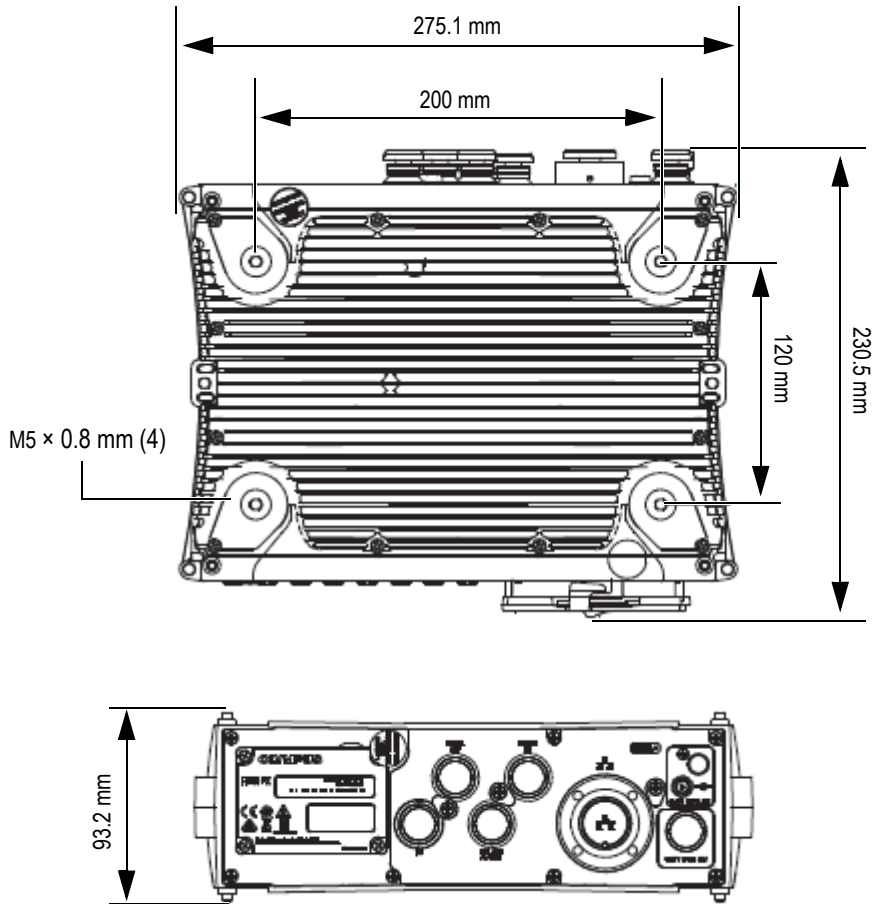

Figure 2-6 Mounting threads and measurements
- ◆ Fix the FOCUS PX unit to the scanner using four of the M5 screws that come installed in holes on both the top and bottom of the instrument (Figure 2-6 on page 37). The thread depth is 9 mm.